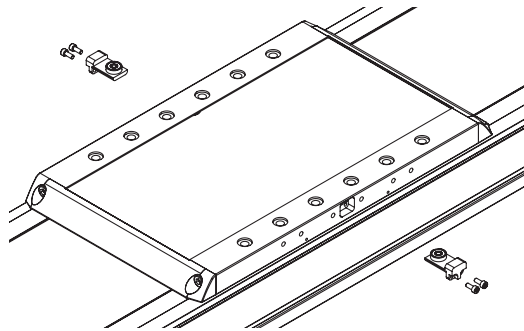

Fig. 7.10 Cover strip guide
- ▶ Pull the cover strip guides sideways out of the carriage (see Fig. 7.10).